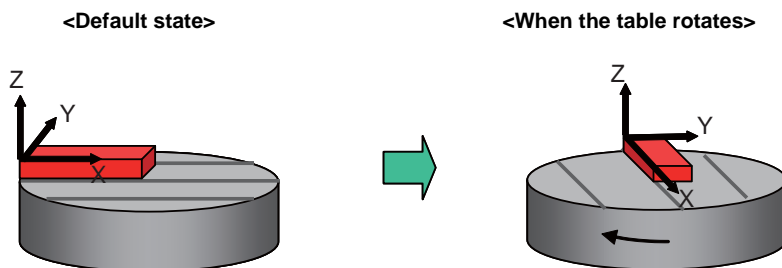

Fig. 1 Table coordinate system
- (1) Convert the program command into the path on the surface of the table coordinate system. Table coordinate system rotates with the workpiece (Fig. 1) as the table rotates. The command path on this coordinate system is the relative command path of the tool against the workpiece.